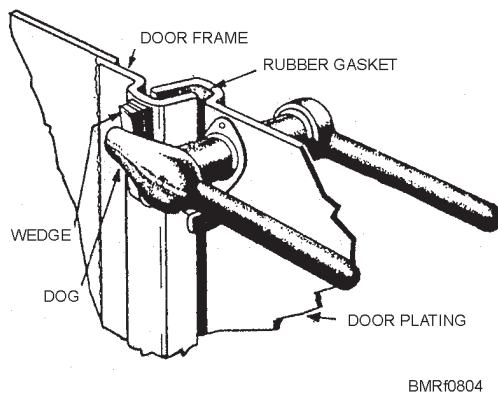
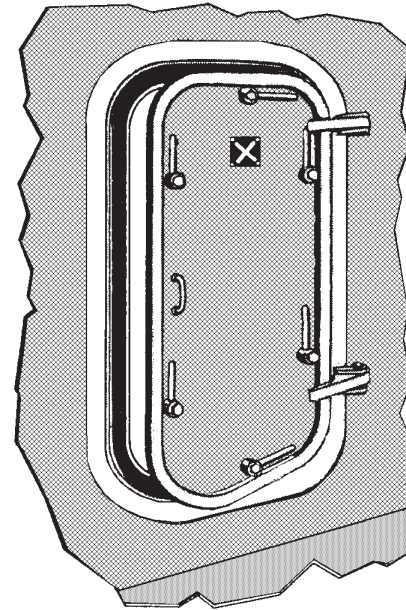
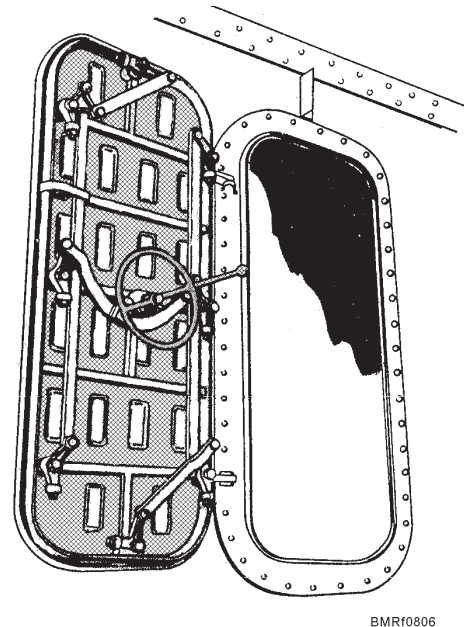

Figure 8-4.—Dogs and gasket for watertight door.
Figure 8-5.—Watertight door with individually operated dogs.
Figure 8-6.—Quick-acting watertight door.
Access through bulkheads is provided by *doors* and through decks by *hatches*. **Watertight (WT) doors**, as the term implies, form a watertight seal when properly closed. All doors leading to weather decks are of the watertight variety, as are those in structural (watertight) bulkheads. (See fig. 8-4.) The doors are held closed by fittings called *dogs*, which bear up tight on wedges. A rubber gasket around the edge of the door presses against a knife-edge around the doorframe forming a watertight seal when all dogs are properly seated (*dogged down*). Some doors have individually operated dogs, as shown in figure 8-5. Other doors are quick acting types, for which a handwheel or lever operates all the dogs at once, as shown in figure 8-6. Some WT doors have openings, called *passing scuttles*, through which ammunition is passed. These scuttles (small tubelike openings) are flashproof as well as watertight.